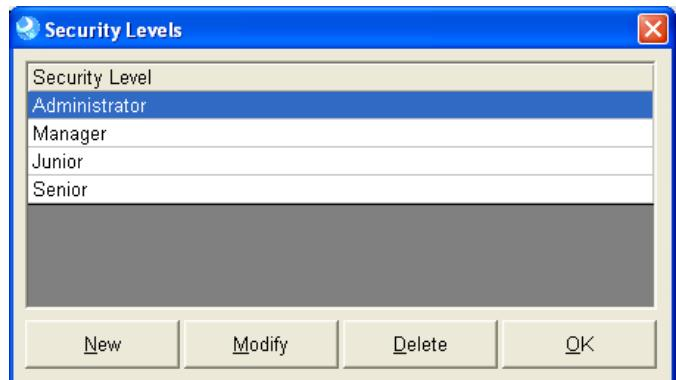

Figure 235
2. This will display the 'Security Levels' window (see Figure 235).